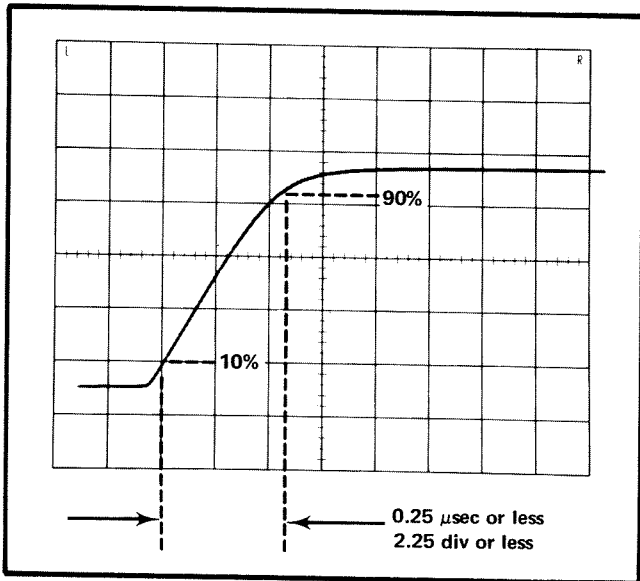

Fig. 5-15. Typical CRT display when checking calibrator risetime.
d. CHECK—CRT display for two and a half divisions or less horizontally between the 10% and 90% points on the leading edge of the calibrator waveform (0.25 microsecond or less risetime; see Fig. 5-15).